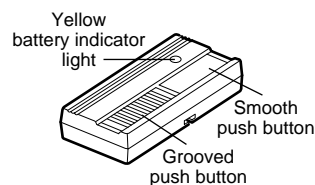

Figure 1
1. Press and hold the **smooth** remote control push button. See Figure 1.